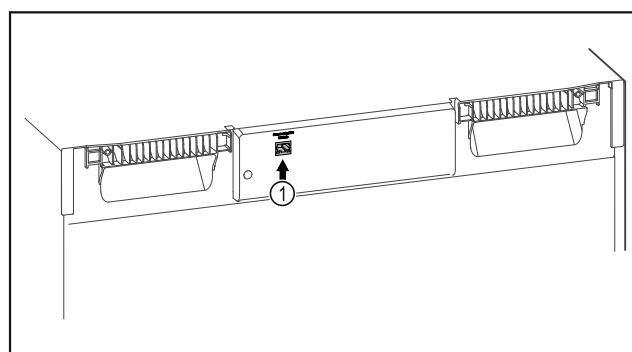

Fig. 129
- ❑ SmartModule Fig. 129 (1) is in use.